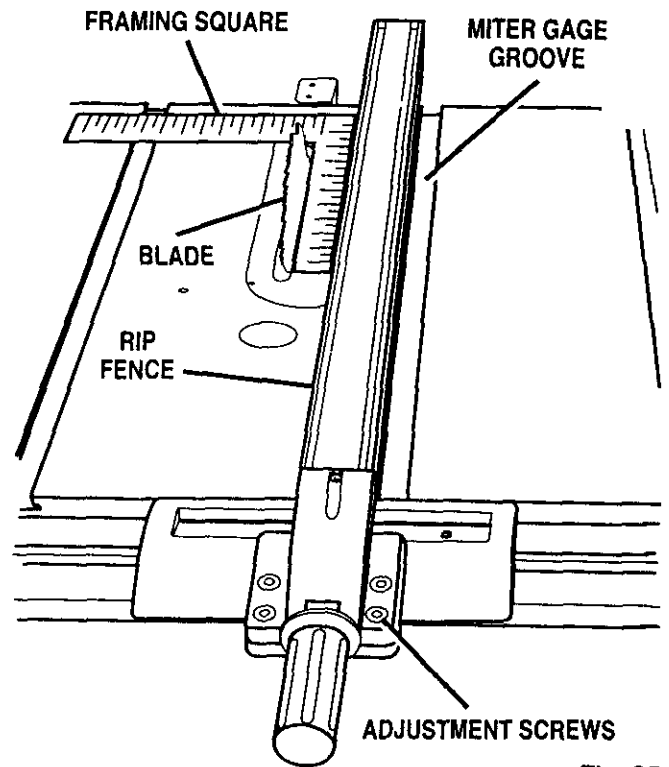

Fig. 35
- Move the square to the back of the blade and measure the distance from the other end of the rip fence to the blade. See Figure 35.